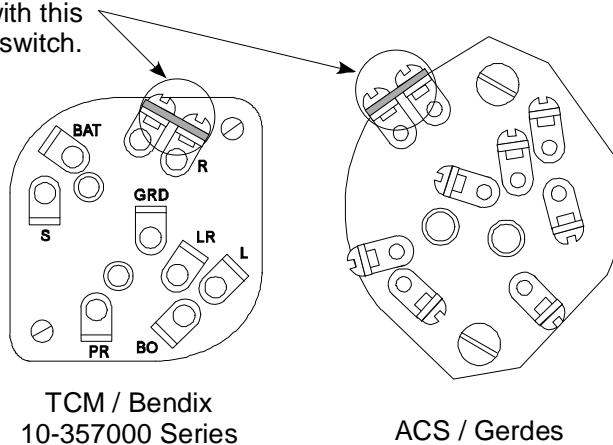

Figure 2
2. If the SlickSTART™ unit is accessible, cut of the #2 pin as short as possible to prevent future use of this pin. See Figure 2. If necessary, remove the SS1001 from the firewall to complete this operation then re-install it.
- (a) In most applications, the right magneto can be grounded during start by the ignition switch. If the wiring connections on the back of the ignition switch are similar to those shown in Figure 2, a jumper can be added to the two terminals shown to provide a ground path during start.